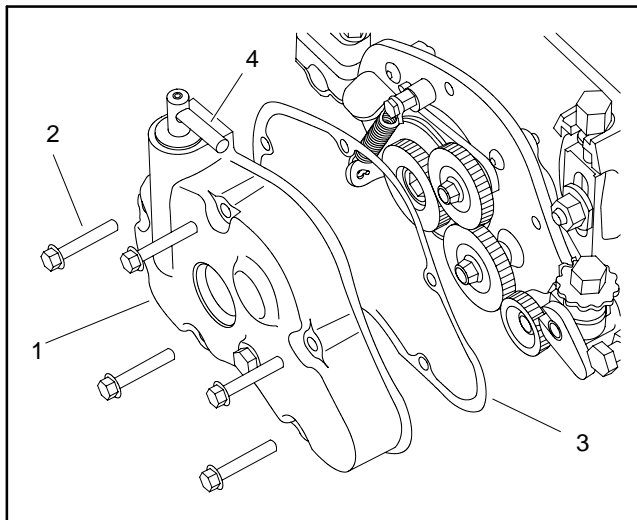
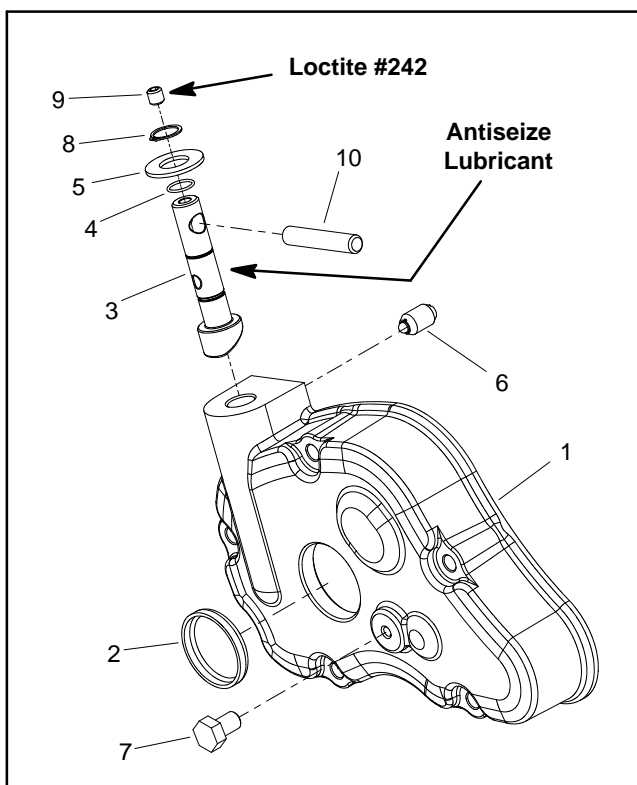

Figure 4
Figure 5
3. Remove groomer cover assembly from machine (Fig. 4):
A. Remove five (5) flange head screws that secure groomer cover assembly to RH drive plate.
4. If necessary, remove shaft from groomer cover (Fig. 5):
A. Loosen set screw (item 9) on top of shaft and slide handle from shaft.
B. Remove retaining ring (item 8) and thrust washer (item 5) from shaft.
C. Remove plunger detent (item 6) from groomer cover.
D. Slide shaft out of groomer cover. Remove and discard O-ring (item 4) from shaft.
1. If removed, install shaft into groomer cover (Fig. 5):
2. Install groomer cover assembly to RH drive plate assembly (Fig. 4):
B. Fill groomer cover with approximately five (5) ounces (142 grams) of Mobil XHP221 grease (or equivalent).
C. Install new gasket and then groomer cover assembly to RH drive plate. Secure cover with five (5) flange head screws.